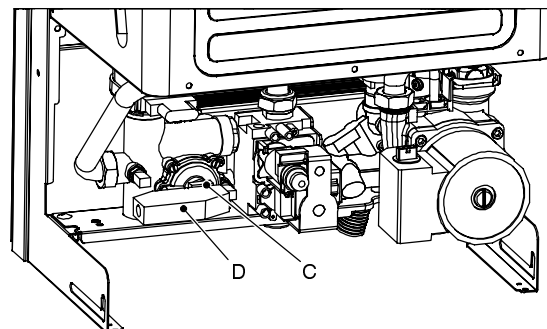

Fig. 52
- 2 Remove the fork C (Fig. 52).
- 2 Remove the fork C that holds the micro-switch housing D (Fig. 52).